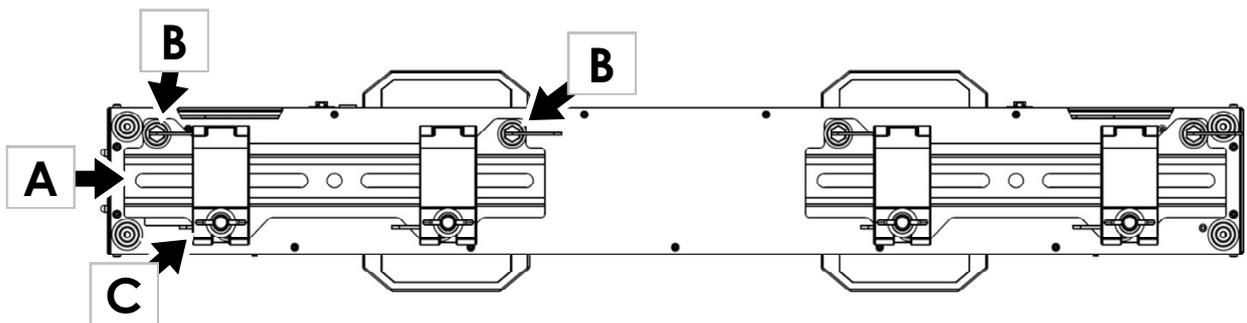

Figure 7. Brackets and rigging clamps
3. See Figure 7. Fasten the two brackets **A** supplied with the fixture to the bottom of the base using four quarter-turn fasteners **B** per bracket. Turn each fastener a full 90° to lock it.